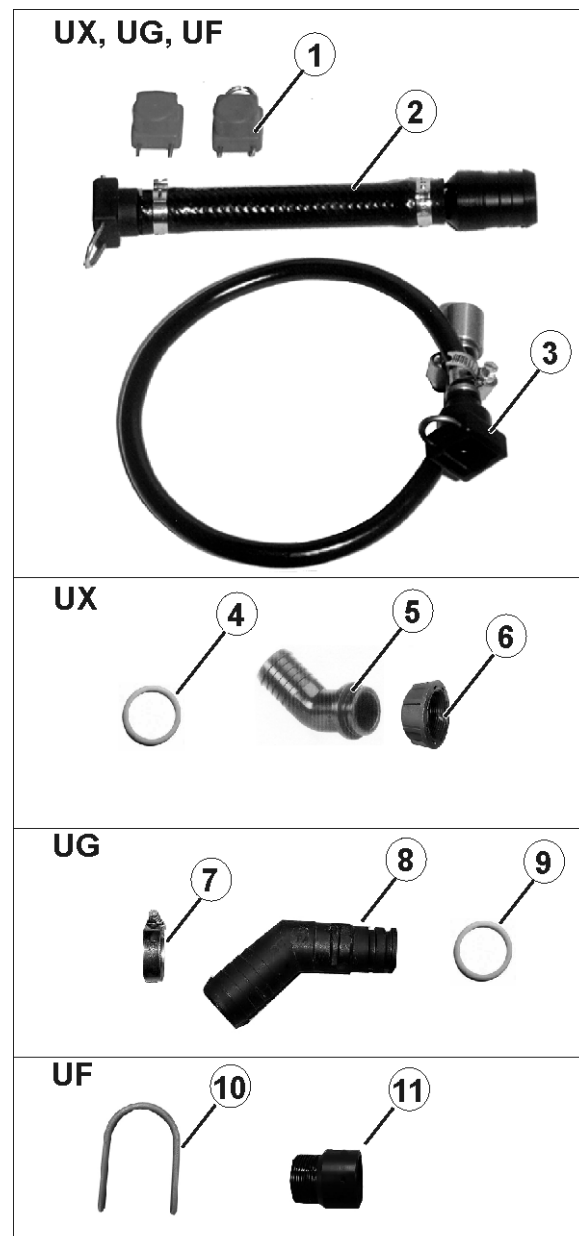

Fig. 178
1. Remove all spray lines from the part width section valves (Fig. 178/1).